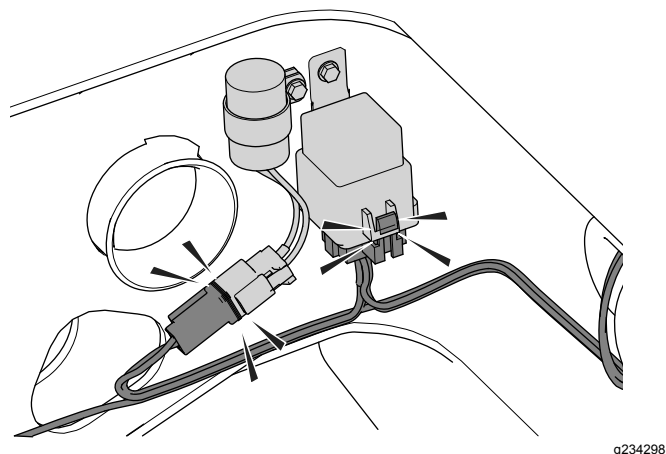

Figure 6
4. Connect the wire harness to the timer module and the relay (Figure 6).